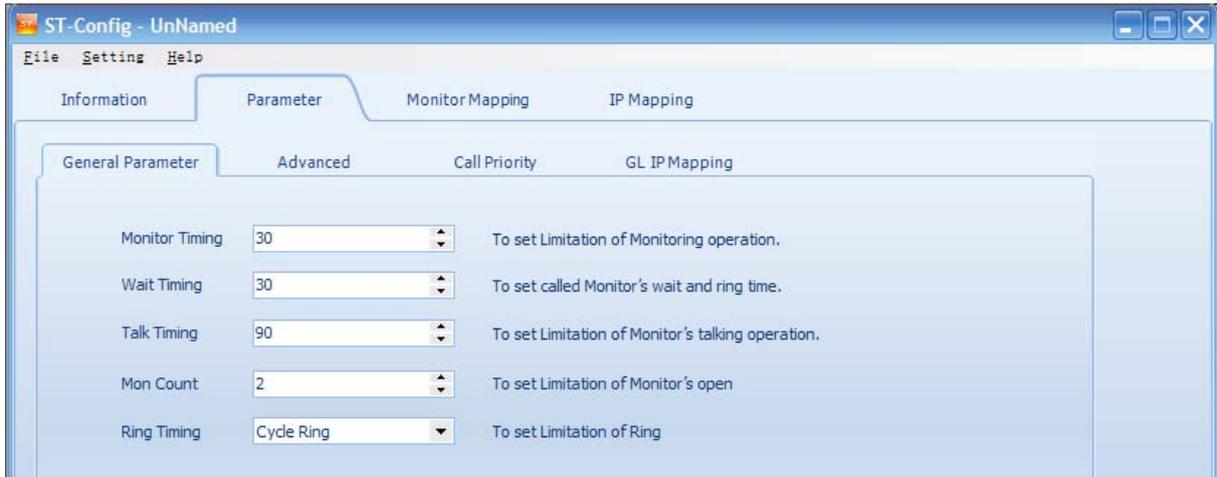

Figure 8
- ◆ Click General Parameter menu to set basic setting of C5-IPC (As Figure 8 shows),